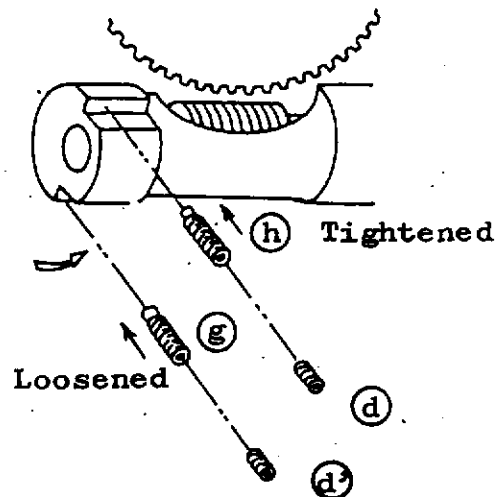

Fig. 2
- 4) Take out the tapered screw plugs d and d' of Fig.2 and the backlash adjusting bolts h and g will be provided therein.
! NOTE Be sure to apply each sealing agent (shown in Fig. 2) to its corresponding part assembling the worm screw, so that no ingress of coolant etc. is permitted.